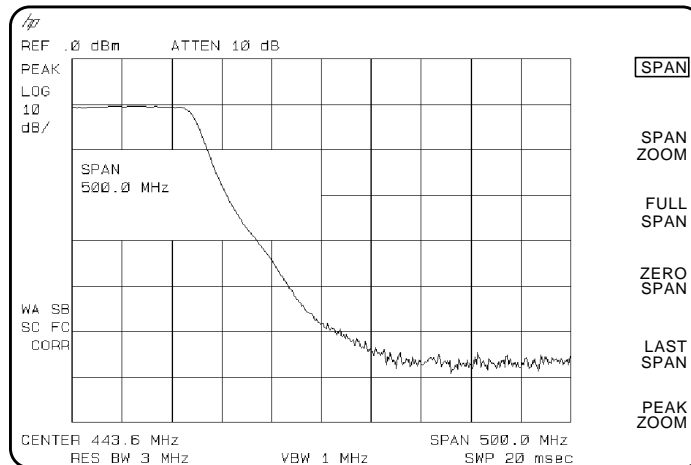

Figure 54 Spectrum Analyzer Settings According to the Measurement Requirement
- 5 Since we are only interested in the rejection of the low-pass filter, tune the spectrum analyzer center frequency so that the roll-off of the filter comprises the majority of the trace on the display (see Figure 54).